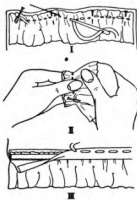

FIGURE 94
**Ruffles** (Figure 94). — These are used to give fullness to a garment and for trimming. The kind of ruffle used depends upon